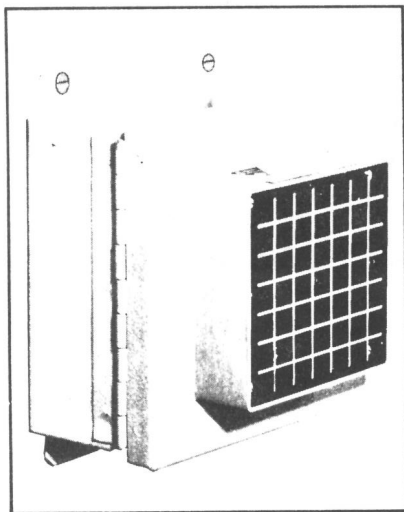

FIGURE 1. The Telehorn
1.01 The Telehorn, CTS #80-55-082-7, is a loud signaling device that can be activated by telephone ringing current or 10-20 VAC signal battery, see Figure 1. It operates from 120 VAC line current.